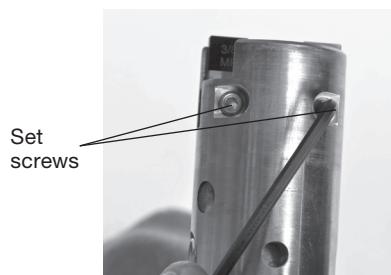

Fig. 5 Loosening the #10 set screws (two other screws are on opposite side of housing)
3. Loosen the four #10 set screws using a 3/32 in. hex key. (Fig. 5)